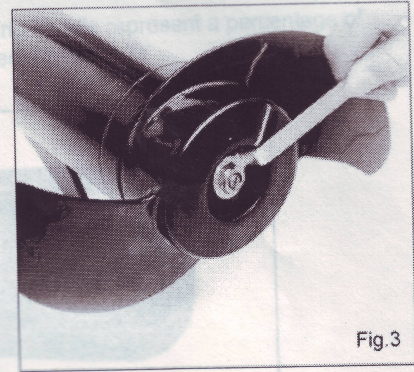

Fig.3
4. Put the gasket and the nut on the shaft. Use the wrench to screw it tightly. (See Fig.3)